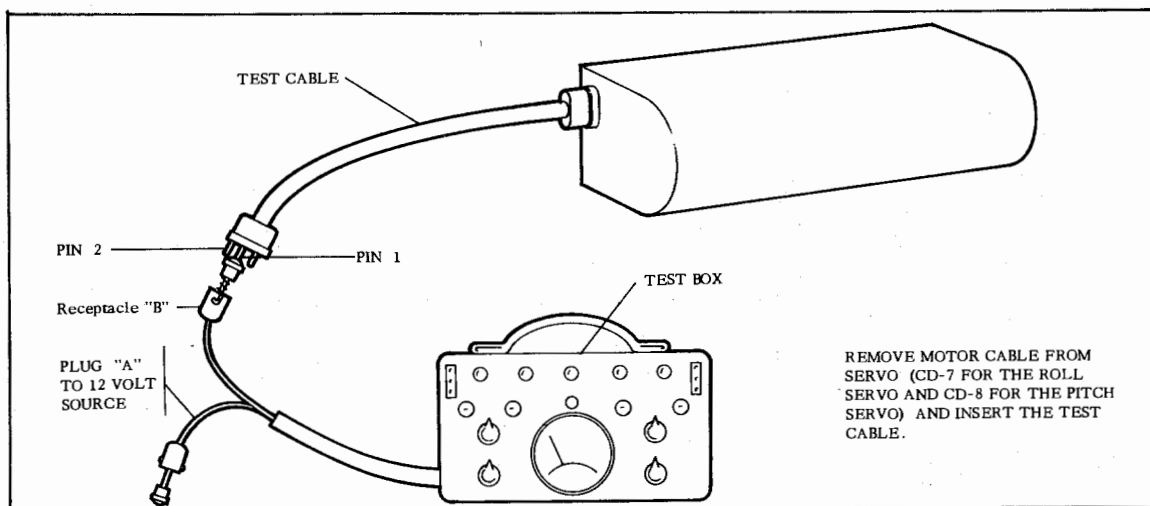

Figure 3-2. Testing Servo Motor
Use the following procedure for checking the Servo Motor, if there is an indication the trouble may be in the Servo. (Refer to figure 3-2)
- d. Plug B from test box must be touched to pin 1 of test cable. (See figure 3-2)